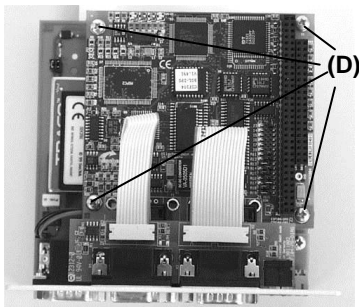

Fig. 2.5.7
- Please, put the Profibus card back in the starting position and tighten the 4 screws (Fig. 2.5.7).